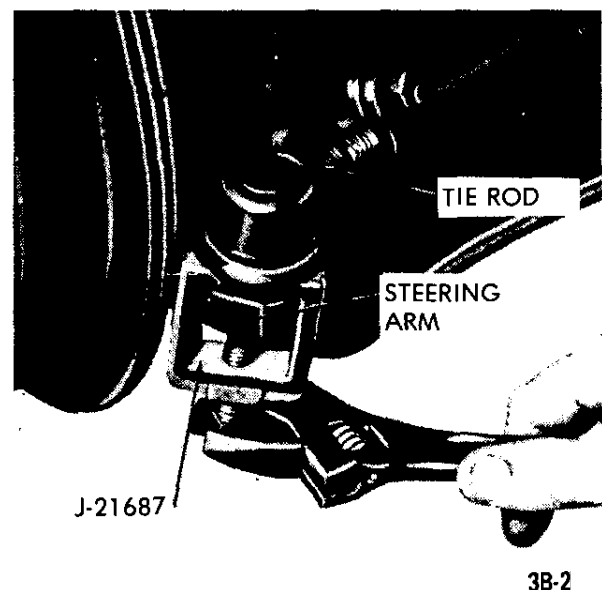

Figure 3B-2 Removing Ball Stud
2. Using remover J-21687, pull outer tie rod ball studs out of steering arms. See Figure 3B-2.
3. Remove clamp securing one end of rubber bellows to tie rods and slip bellows off tie rods to expose nut or lock plates. See Figure 3B-3.